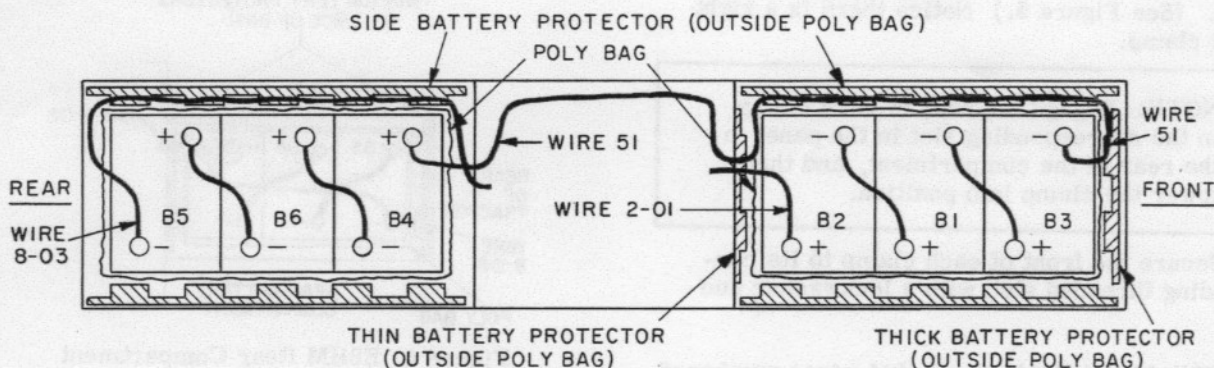

Figure 7. E10M Battery Wiring
4. Carefully set three batteries in the bag as shown in Figure 7 observing polarity markings. Make sure the sides of the bag remain above the top surface of the batteries in equal amounts. (It may help to tape the upper edges of the bag to the tractor sides temporarily to permit easy insertion of the batteries.)
5. Place one of the long, vacuum-formed, battery protectors along each side of the poly bag (outside) so the corrugations will face the battery walls. (See Figure 7.)
6. Place the short sections of battery protectors in similar fashion at the ends of the compartment with the thicker one at the front as shown in Figure 7.
7. Connect the battery cables in accordance with Figure 7. Observe clamp polarity markings. Coat the terminals, after connections are made, with a thin film of Battery Terminal Protective Grease, AP31. Make sure all surfaces are coated!
6. Carefully set the batteries in the bag as shown in Figure 7 so that the sides of the bag remain above the top battery surface in equal amounts and all wires are accessible.
(outside) so its corrugations will face the battery walls. (See Figure 7.)
8. Connect the battery cables and wires in accordance with Figure 7. Coat the terminals after connections are made with a thin film of Battery Terminal Protective Grease, AP31. Make sure all surfaces are coated!